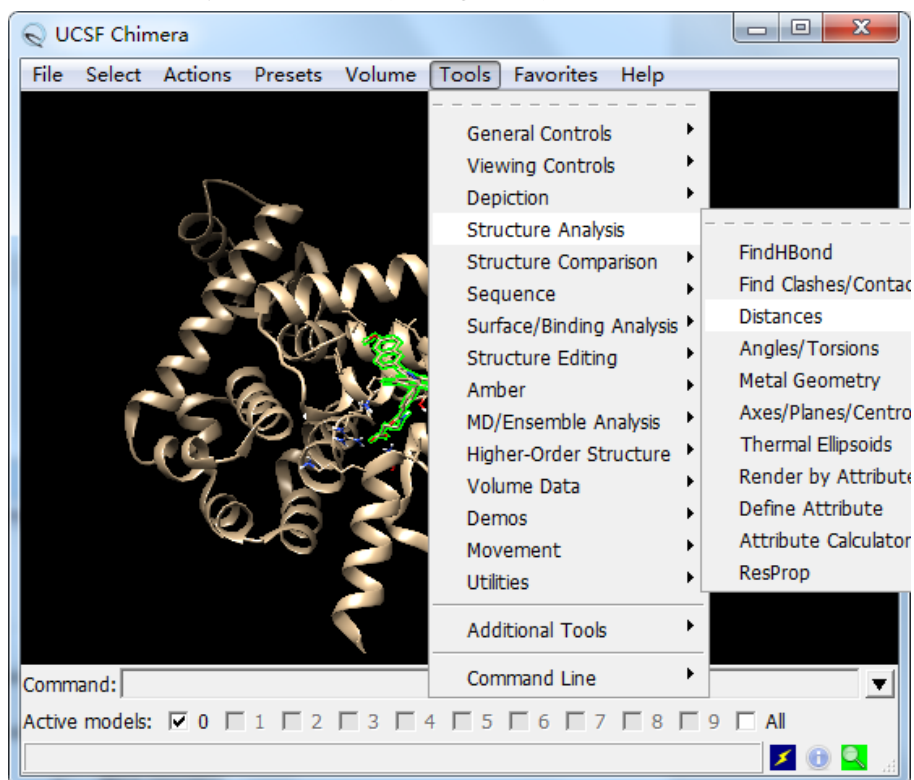

Figure 15. Selecting distance tool.
2. Tools→Structure Analysis→Distance (see Figure 15):